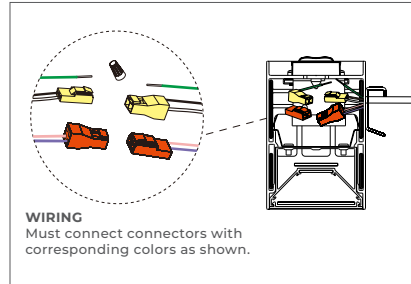

FIGURE 1-1
- 1) Prior to installation, take off the end cap and LED module, and thread the power cord out of the housing as shown. Make connections and secure LED module and end cap back in place. (Figure 1-1)